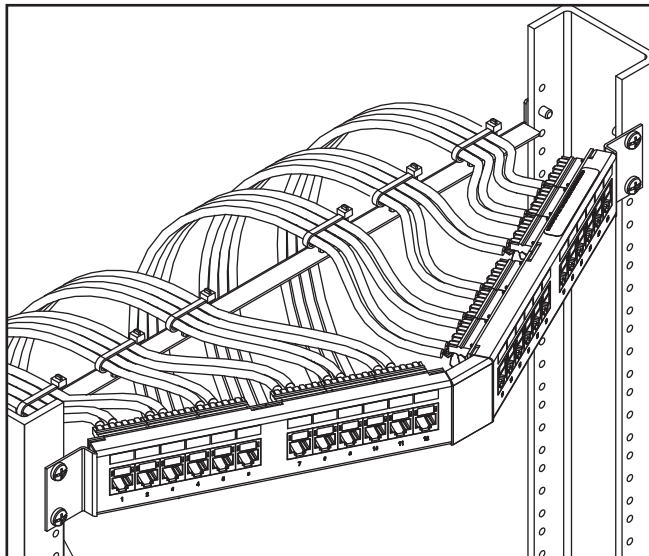

Figure 5
Step 6: Complete the termination of the remaining patchpanel 110 modules following the above steps and dress each cable and secure in place. See Figure 5.